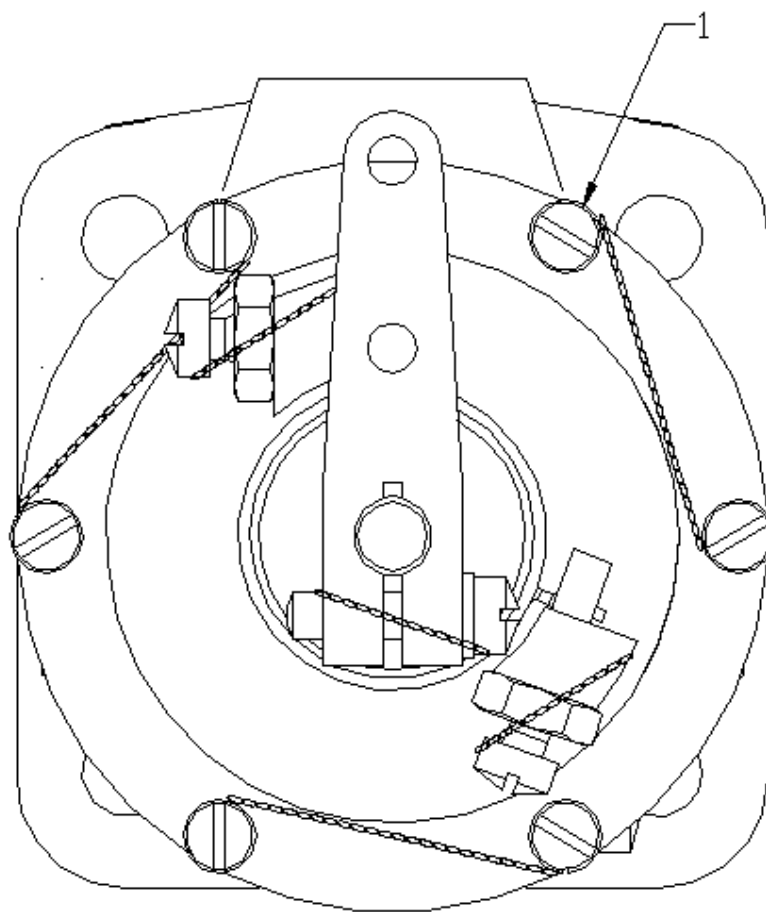

Figure 12
5.6.1 Governor Head (see Figure 12)
It is possible to locate to governor head in any position, see Figure 12.